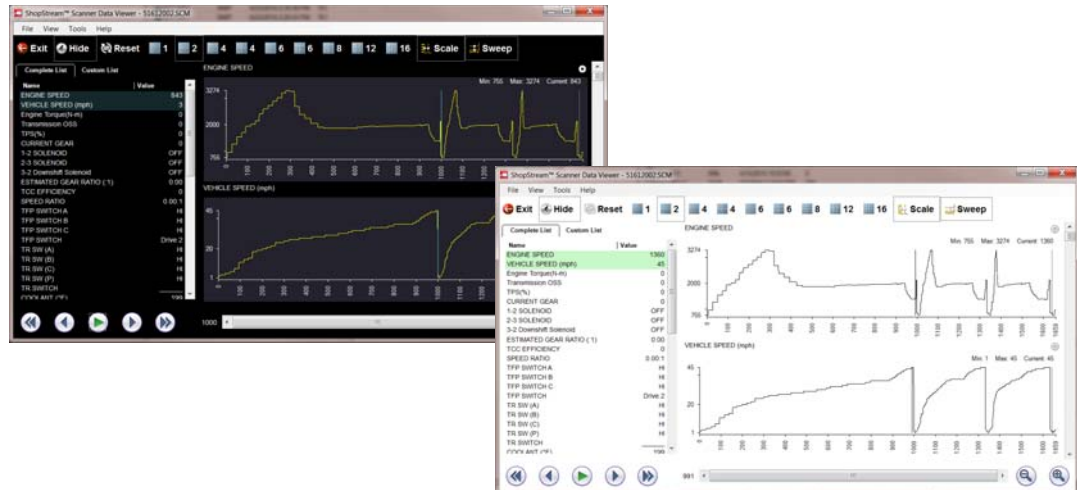

Figure 6-8 View Settings - Default (left) and Printer Friendly (right)
- **Printer Friendly** - displays graphs with a white background.See (Figure 6-8) for examples.